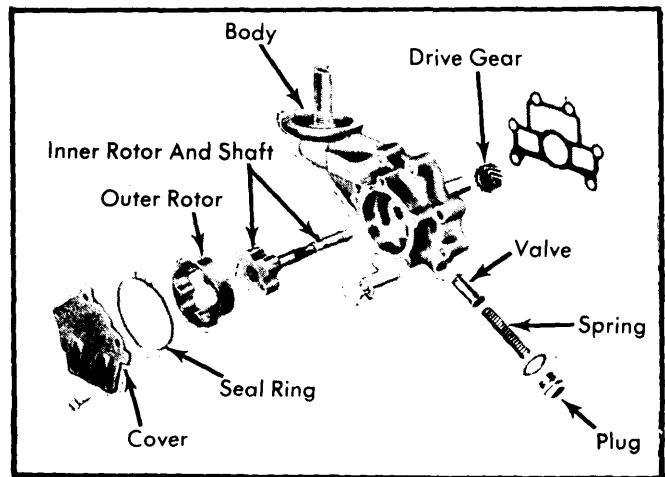

Fig. 15 Exploded View of Oil Pump Assembly
2) Pump delivers oil directly into main oil gallery extending along right side of crankcase. See Fig. 15.